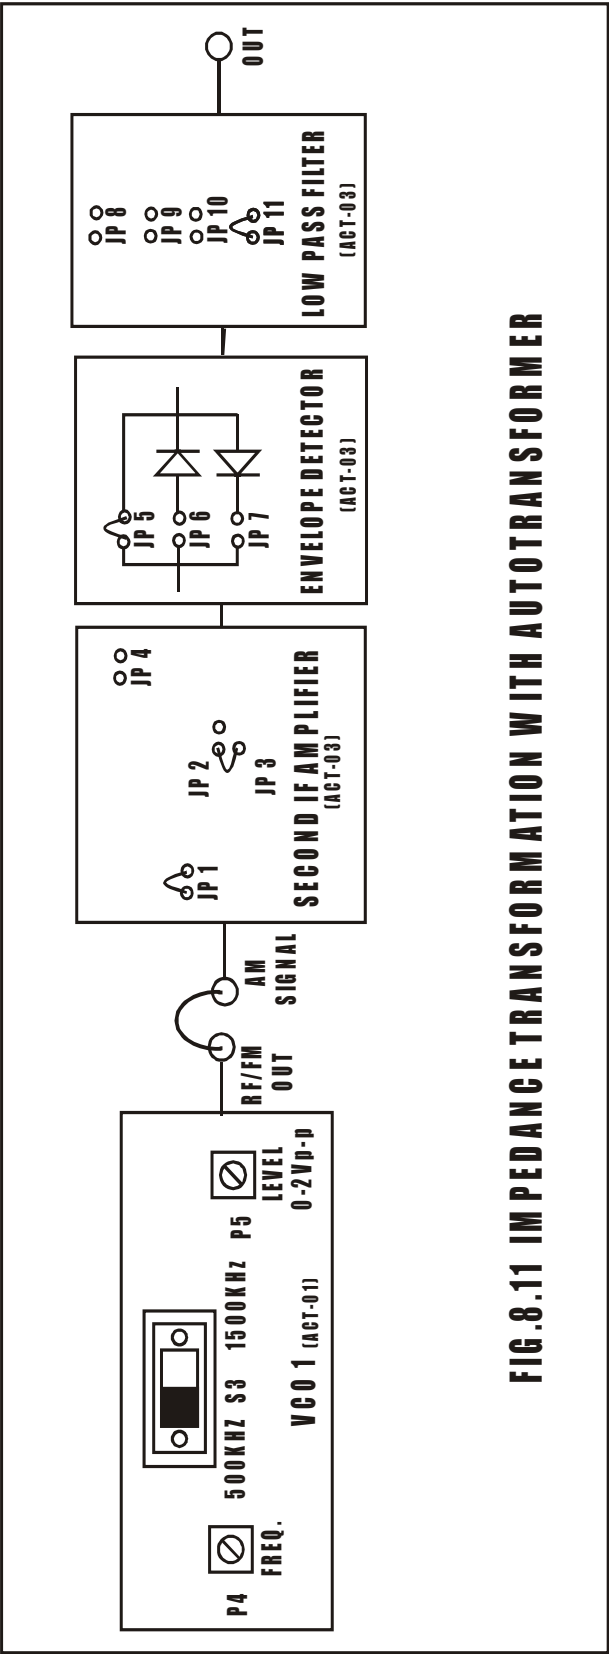

FIG.8.11 IMPEDANCE TRANSFORMATION WITH AUTOTRANSFORMER
- Set the second IF stage as in fig. 8.11 (short only the jumpers: JP1, JP3, JP5, & JP11 and keep jumpers JP2, JP4, JP6, JP7, JP8, JP9 & JP10 open).